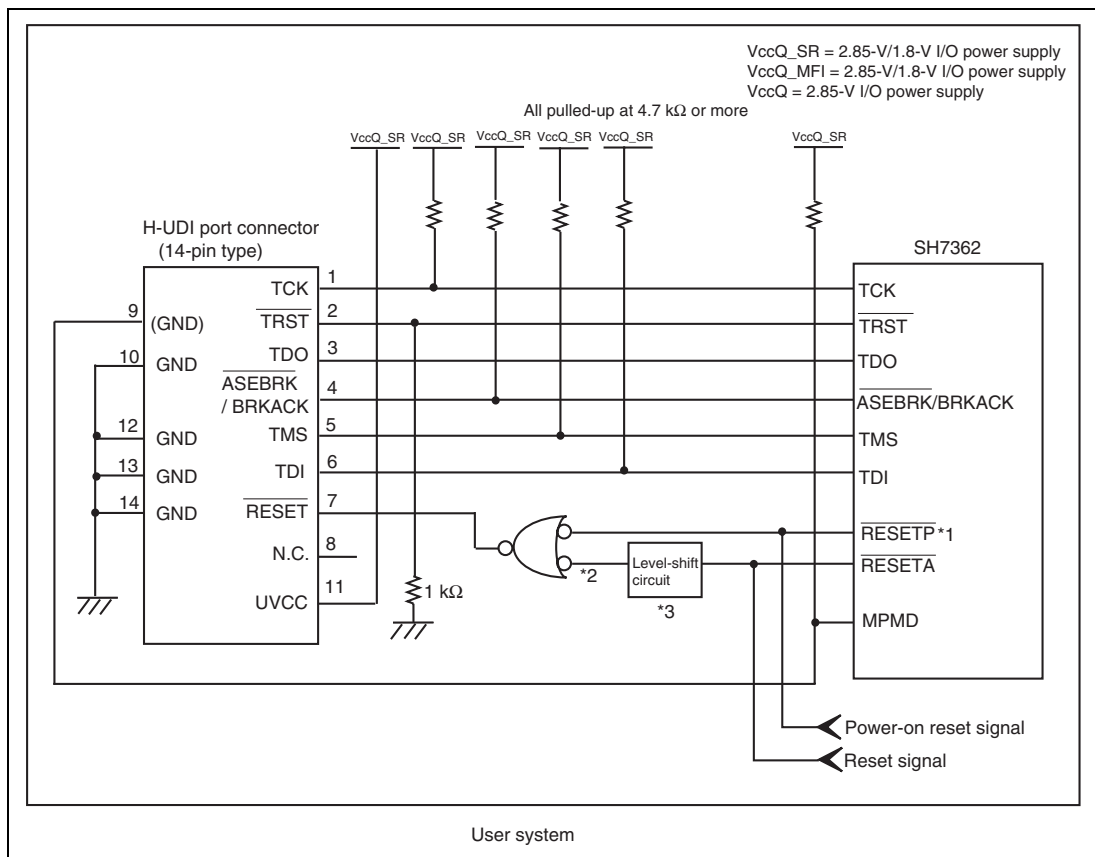

Figure 1.6 Recommended Circuit for Connection between the H-UDI Port Connector and MPU when the Emulator is in Use (14-Pin Type)
5. Connect /RESETP and /RESETA to the user system if required, as shown in figure 1.6.
Figure 1.6 shows a recommended circuit for connection between the H-UDI port connector (14 pins) and the MPU when the emulator is in use.
- (1) When the emulator is used: MPMD = 0
- (2) When the emulator is not used: MPMD = 1Figure 1.6 shows an example of circuits that allow the MPMD pin to be GND (0) whenever the emulator is connected by using the user system interface cable.
7. The resistance values shown in figure 1.6 are for reference.
When the circuit is connected as shown in figure 1.6, the switches of the emulator are set as SW2 = 1 and SW3 = 1. For details, refer to section 3.8, Setting the DIP Switches, in the SuperH™ Family E10A-USB Emulator User's Manual.